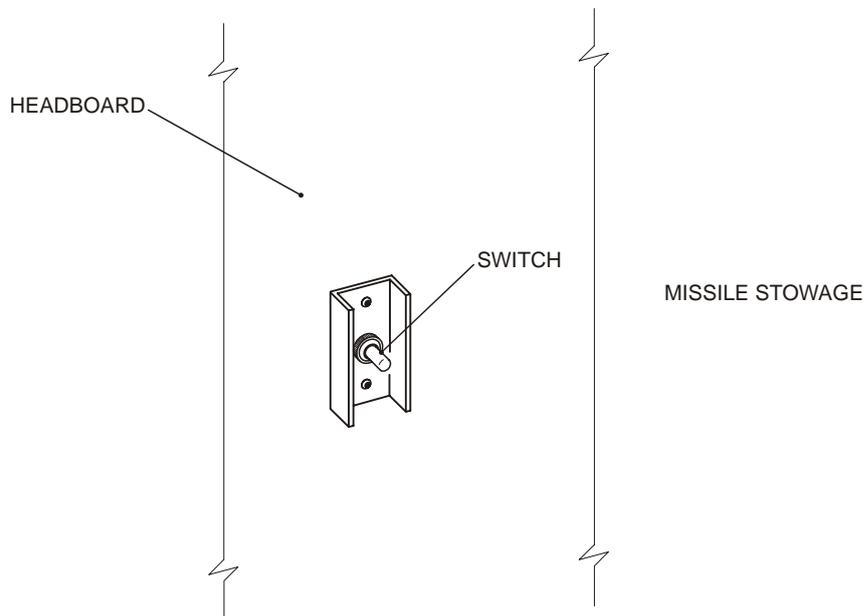

Figure 5 Crash Action Override Switch
17. To remove the crash action override switch (Figure 5):